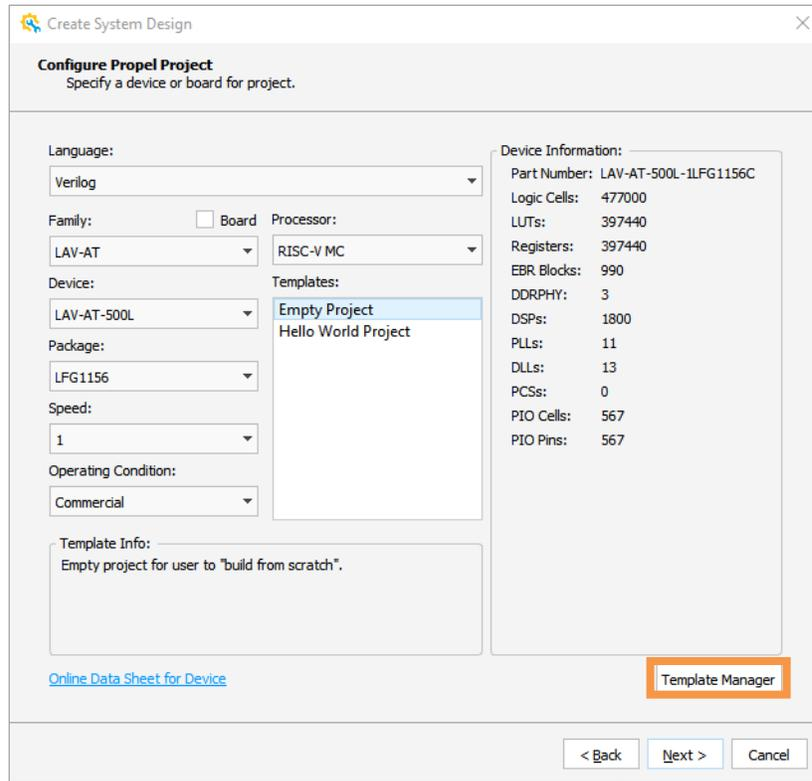

Figure 2.139. Template Manager Entry
- You can import/delete/export a selected template in **Template Manager** when creating a new system design (Figure 2.139 and Figure 2.140).